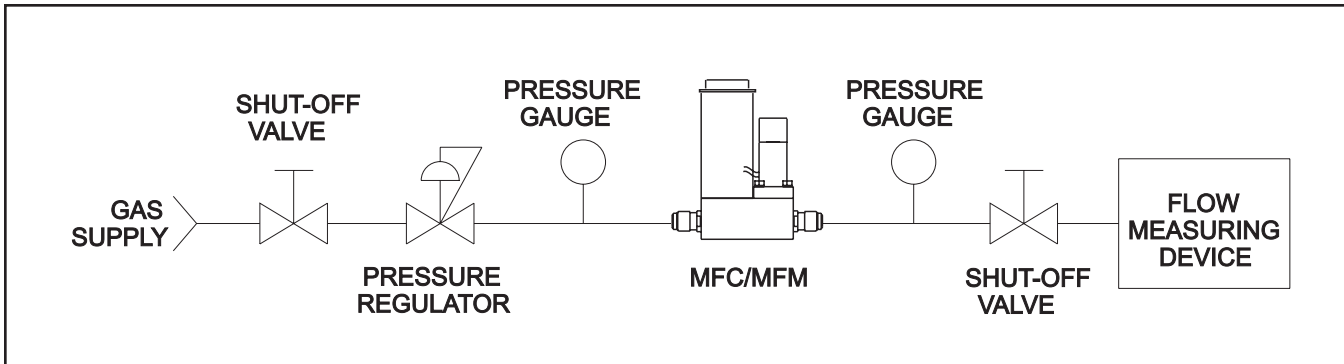

Figure 4-1 Bench Troubleshooting Circuit
1. Establish a proper connection between the Brooks SLAMf Digital Series Mass Flow Meter or Controller (using Figure 4-1 as a reference). Switch on the power and allow the instrument to warm-up for 45 minutes. In case of a controller model, adjust the setpoint to zero. Do not connect the device to a gas source yet. Observe the output signal and, if necessary, perform the zero adjustment procedure (See Section 3-4 Zeroing Function). If the output signal does not zero properly, please contact Brooks Instrument.